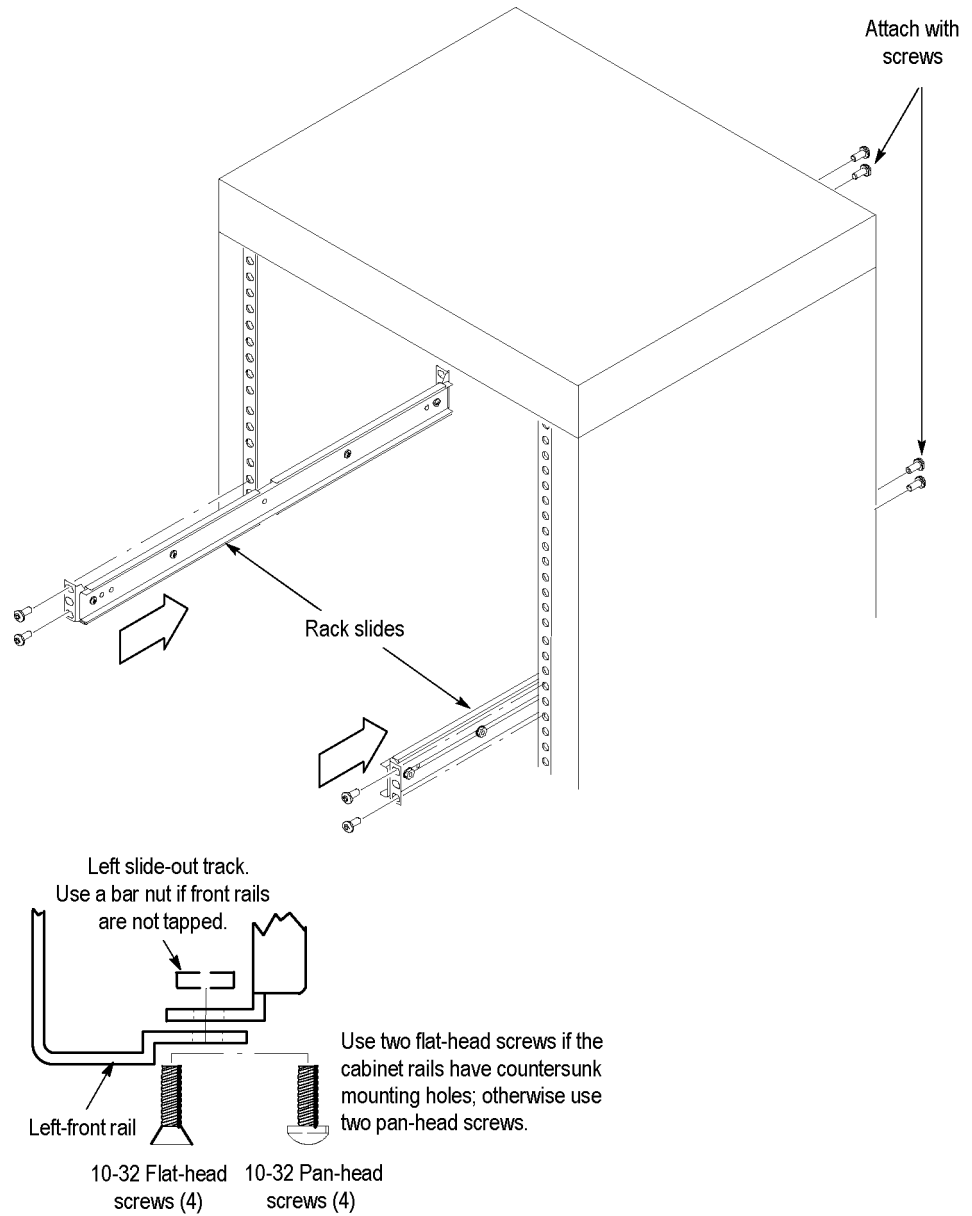

Figure 6: Installing the rail slides
2. Attach the rack slides to your equipment rack. (See Figure 6.)